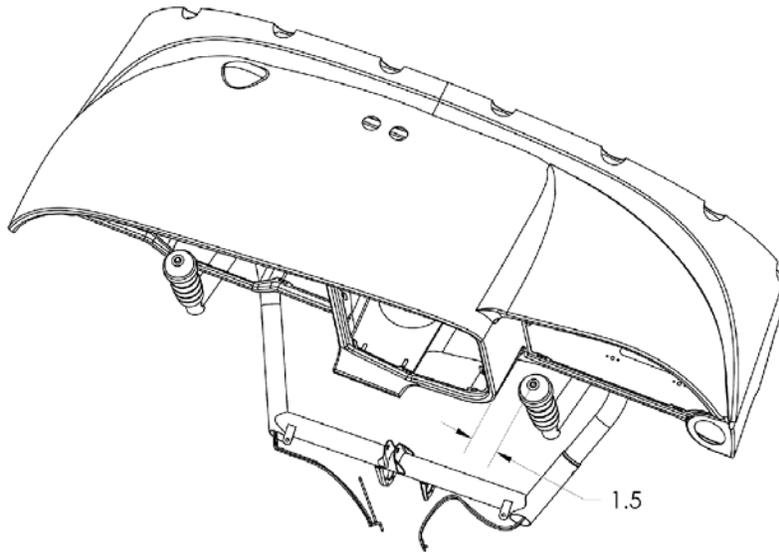

Figure 27-91 Clearance Between the Co-pilot's Yoke and the Instrument Console
24. Check the clearance between the co-pilot's control yoke handle and the instrument console. The clearance between the center of the yoke handle (the push-to-talk button) and the instrument console must be greater than 1.5in., see Figure 27-91. If less the 1.5in, adjust the horizontal stabilizer control by decreasing the length of the forward horizontal stabilizer push rod.